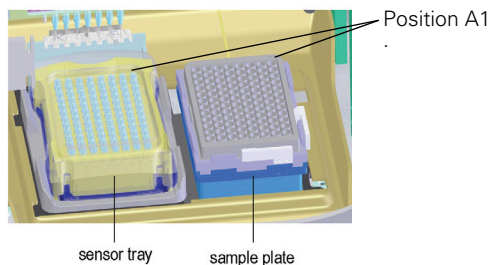

Figure 3.8 Sensor stage (left) and sample stage (right)
2. Place the sensor tray on the sensor stage (left side) so that position A1 is located at the upper right corner (Figure 3.8).